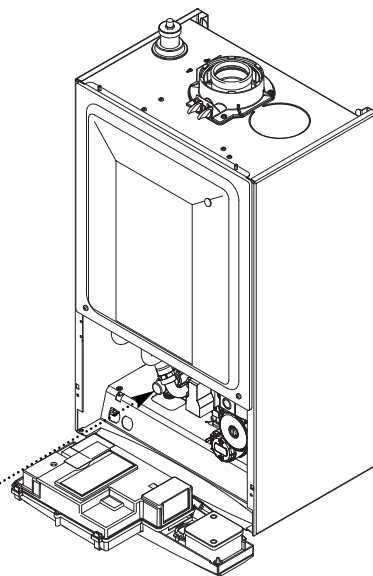

Fig. 6
1. The appliance expansion vessel is pre-charged to 0.5 bar. Therefore, the minimum cold fill pressure is 0.5 bar. The vessel is suitable for correct operation for system capacities up to 125 litres (25) 155 litres (30). For greater system capacities an additional expansion vessel must be fitted. For GB refer to BS 7074 Pt 1. For IE, the current edition of I.S. 813 "Domestic Gas Installations".
6.7 Safety Pressure Relief Valve (Fig. 6)